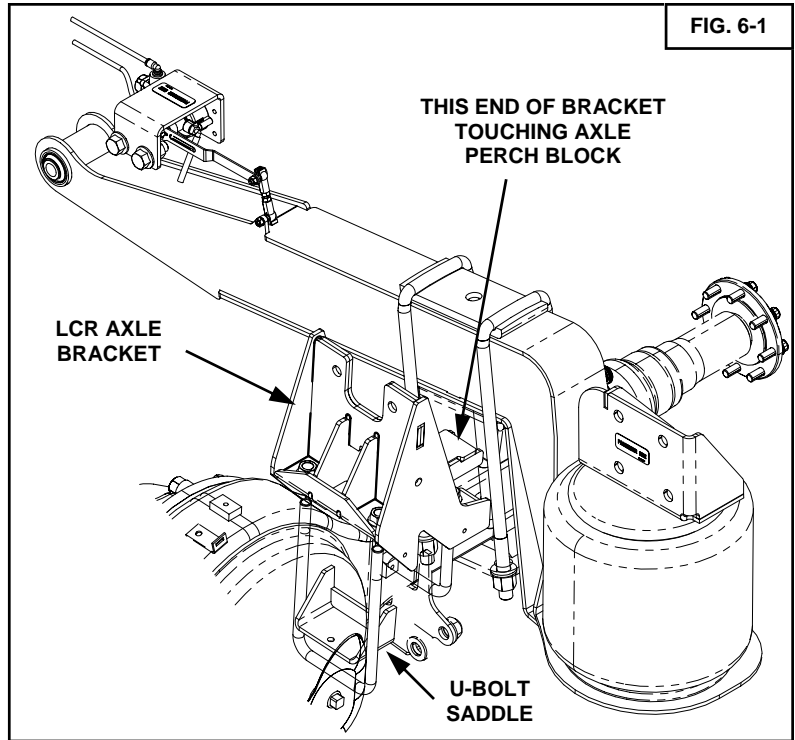
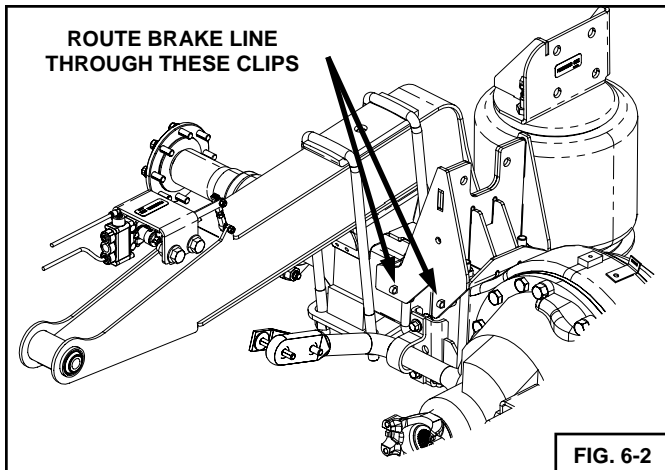

FIG. 6-1
FIG. 6-2
1. Place the Lateral Control Rod Axle Bracket on the top of the axle on the passenger side. Make sure the end touches the axle perch block. (See Figure 6-1).
2. Bolt the Axle bracket to the axle using (1) 5/8" UNF X 9.50" u-bolt, (1) 5/8" UNF X 6.25" u-bolt, (4) 5/8" UNF Flange nuts, and the supplied U-Bolt Saddle. Ensure that the u-bolt saddle fits under and around the axle to give the long u-bolt a flat mounting surface. (Torque to 185-235 FT-LBS.)
3. Using the supplied clips on the front side of the axle bracket, route the brake line through these clips and away from any other objects. (See Figure 6-2).